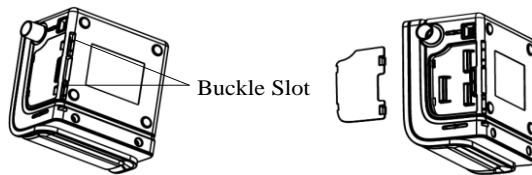

Fig. 4-1
- (1) Overturn the main device and find the buckle slot at the bottom of the main device, as shown in Fig. 4-1.
- (2) Remove the shield by inserting a flat tool into the buckle slot.